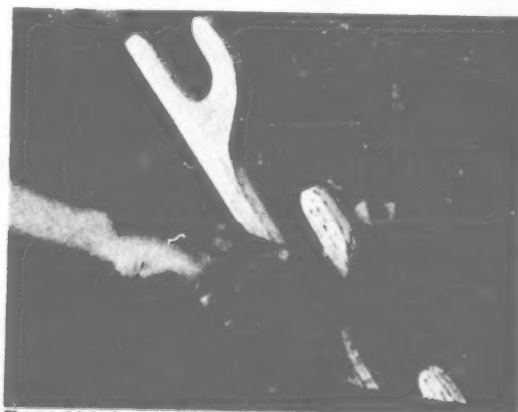

Figure 14-8 Sanding an inside curve
2. Sand the edge by moving the sandpaper with the grain of the wood (*Figure 14-8*).